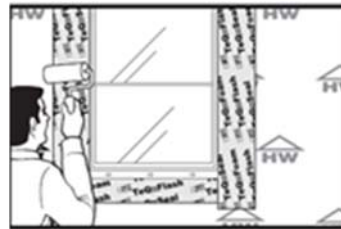

Figure 8
4.3.1 Roll smooth to ensure air bubbles are removed and intimate contact is made between substrates (Figure 8).